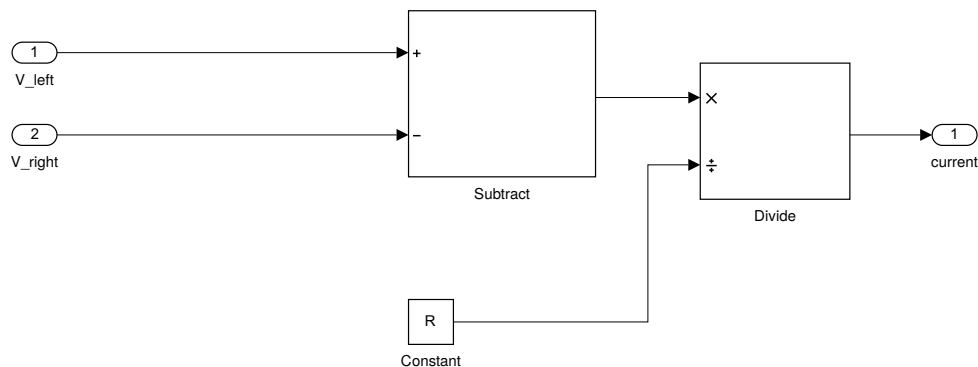

Figure 1.3: The resistor subsystem. The current is positive if  $V_{left} > V_{right}$ .
- In the model window that you opened earlier, create a model as shown in Fig. 1.3.